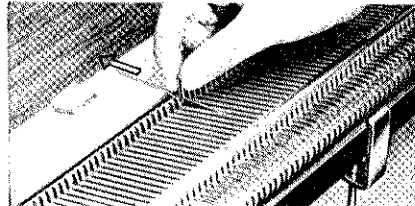

Fig. 131
f. Replace with a needle by holding it as shown in Fig. 131. (with latch opened)
g. Now push back the needle to the resting position (A).